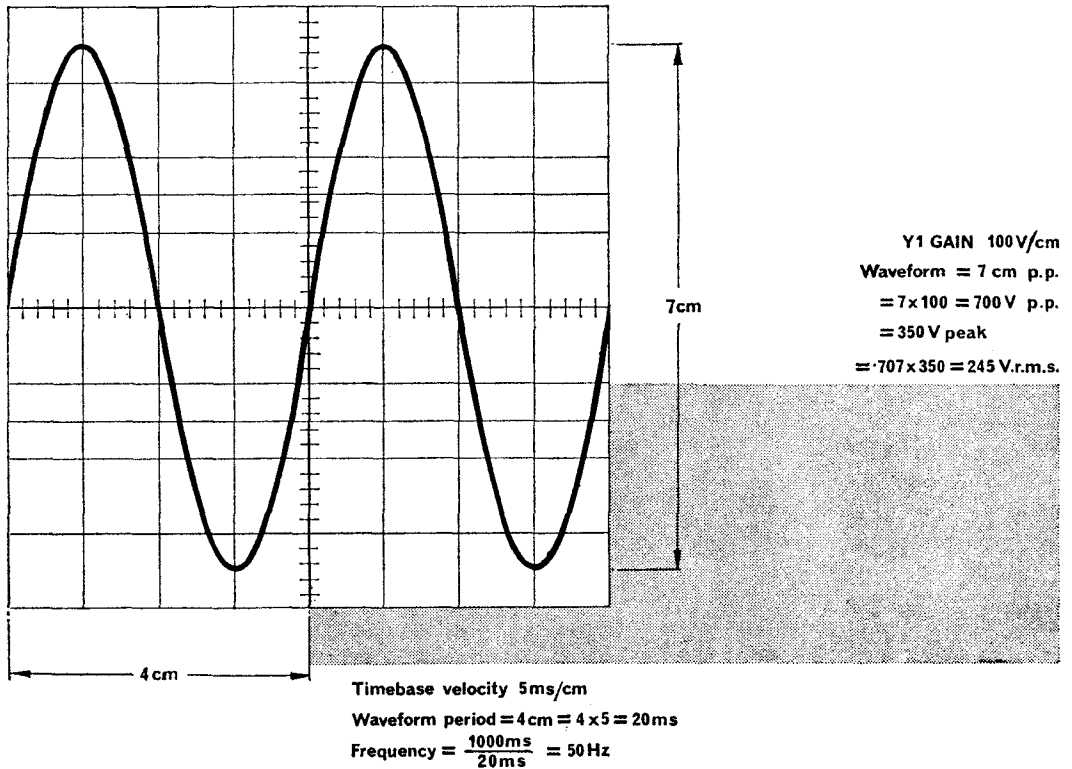

Fig. 1. Display of mains voltage on oscilloscope
1. An oscilloscope is used to give a pictorial display of the voltage changes taking place in a circuit. These are applied to the deflecting plates of a cathode ray tube to give vertical displacement of the spot. The horizontal deflecting voltage is obtained from a timebase circuit inside the instrument and is directly proportional to time. The type of display obtained with a sine wave input is shown in figure 1.